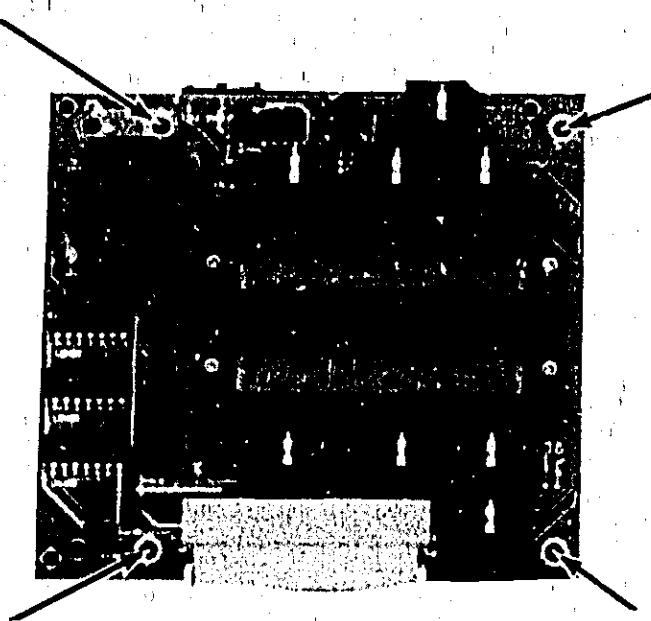

Figure 8-2. Display Board Screw Locations
- d. Remove the four screws on the A1 Display Board as shown in Figure 8-2.